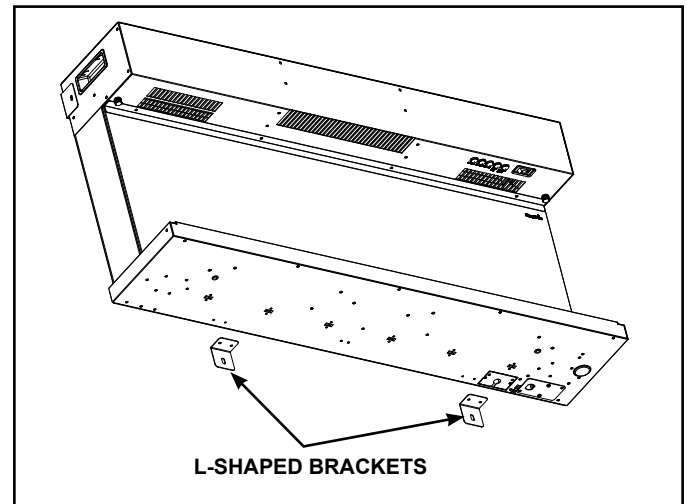

Figure 4.9 L-Shaped Bracket Location
4. Install two (2) provided 'L-shaped' brackets to the bottom of the appliance using four (4) provided ST4x8 screws. See Figure 4.9.